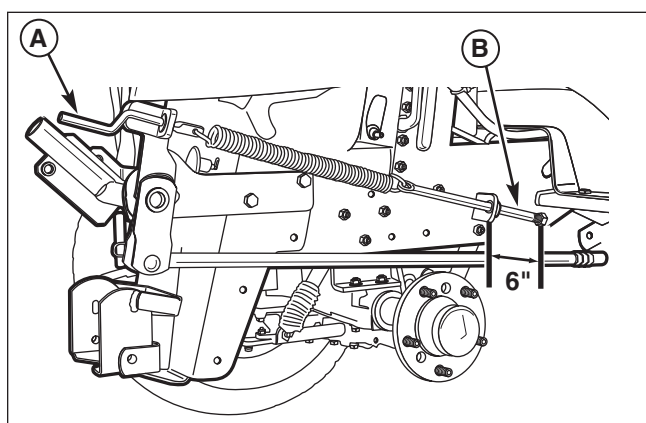

Figure 24. Lift Spring Assist Crank
2. Turn the lift spring assist crank (A, Figure 24) until the length of threaded rod between the bracket and end of the threaded rod spring (B) and the bracket measures 6".
The amount of lift assist can be varied based on the depth of tilling and the hardness of the soil. If more assist is desired, the turn crank (A, Figure 24) clockwise. If more downward force is needed, turn the crank counterclockwise.